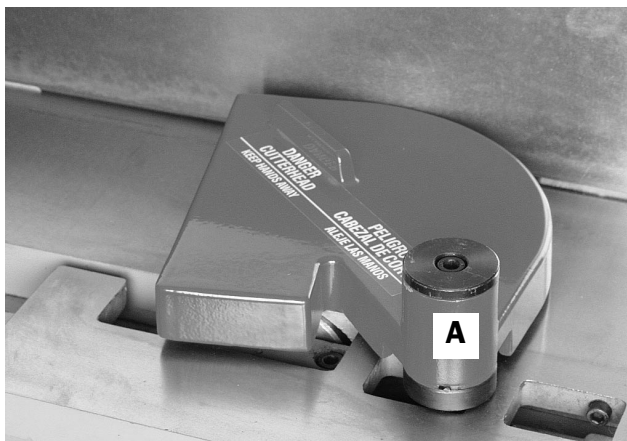

Fig. 4
There is a tension spring in the cutterhead guard assembly Fig. 4 (A) which allows the guard to return after a cut has been made.